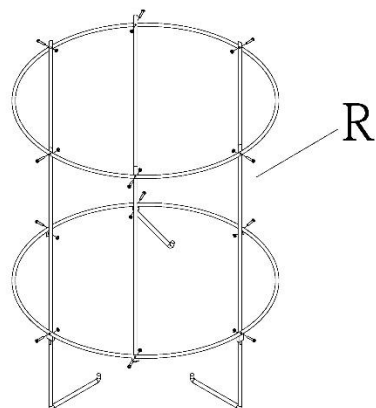

Figure 13
18. Screw the short and long frame supports into the hoops in alternating manner, as shown in Figure 13. Secure with twelve pan head screws and hex nuts (HP10,HP11). (Note: The bends on long supports point inward as shown.)